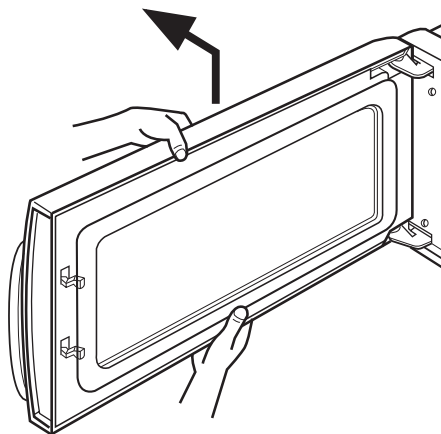

Figure 15
- (1) Remove one rivet ASS'Y securing it to the oven upper plate by using knife blade.
- (2) Rotate slightly and pull out the stirrer fan cover.
- (3) Remove the stirrer fan.
F. REMOVING DOOR (Figure 15)
- (1) Remove the vent grille by removing two screws securing it to the outside case loosening.
- (2) Lift up and remove the door.